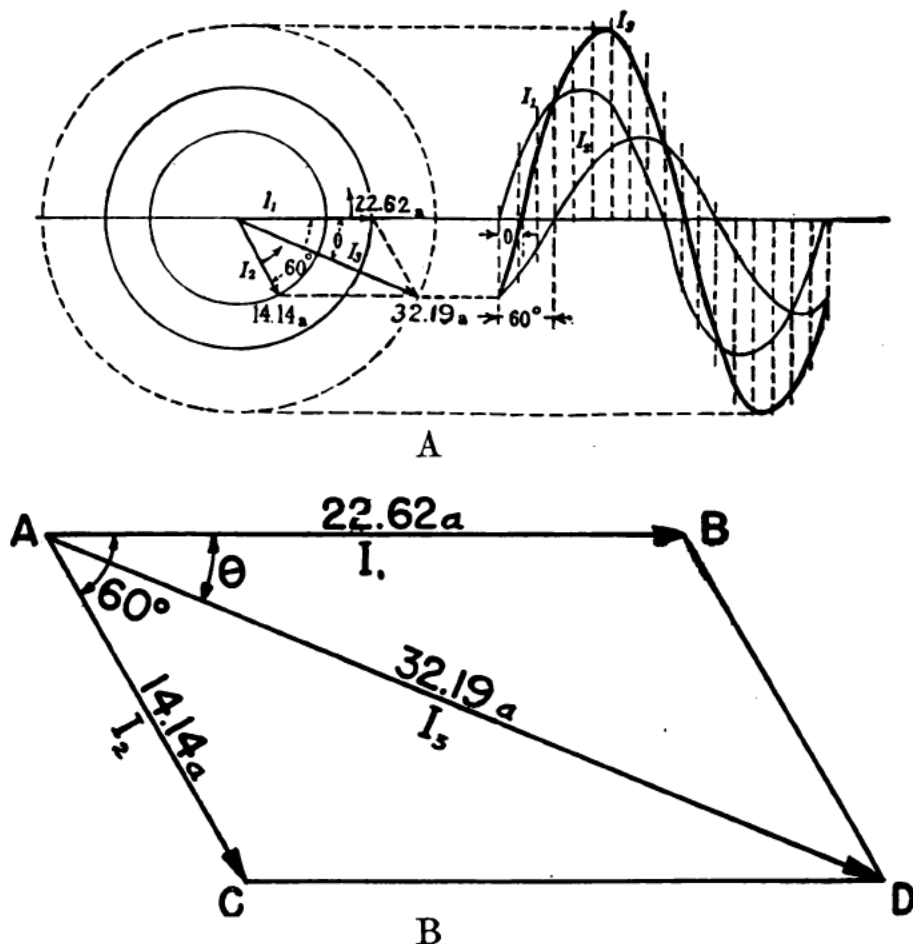

Figure 54.—Vector addition of two a-c currents.
You could labor through and plot the two sine curves I_1 and I_2 , and then struggle with measuring off their respective values at various instants. And eventually you'd come up with a curve that looks somewhat like I_3 in figure 54.
Want to do it the easy way? All right, use the parallelogram method you learned earlier in this chapter. In figure 54 (B), you have an enlarged sketch of the parallelogram that is shown in figure 54 (A). See what you do? Lay off line AB horizontally and to a scale of 22.62 amps for I_1 . Then lay off AC , making a LAG angle of 60° with AB , and to a scale of 14.14 amps for I_2 . Next, construct the parallelogram $ABDC$ around the vectors AB and AC . Finally, draw the diagonal AD , scale it off, and you find that—
You also find automatically that I_1 leads I_3 by angle θ , on figure 54 (B).
Next draw a third circle of radius 32.19 amps to scale around the circles I_1 and I_2 on figure 54 (A),